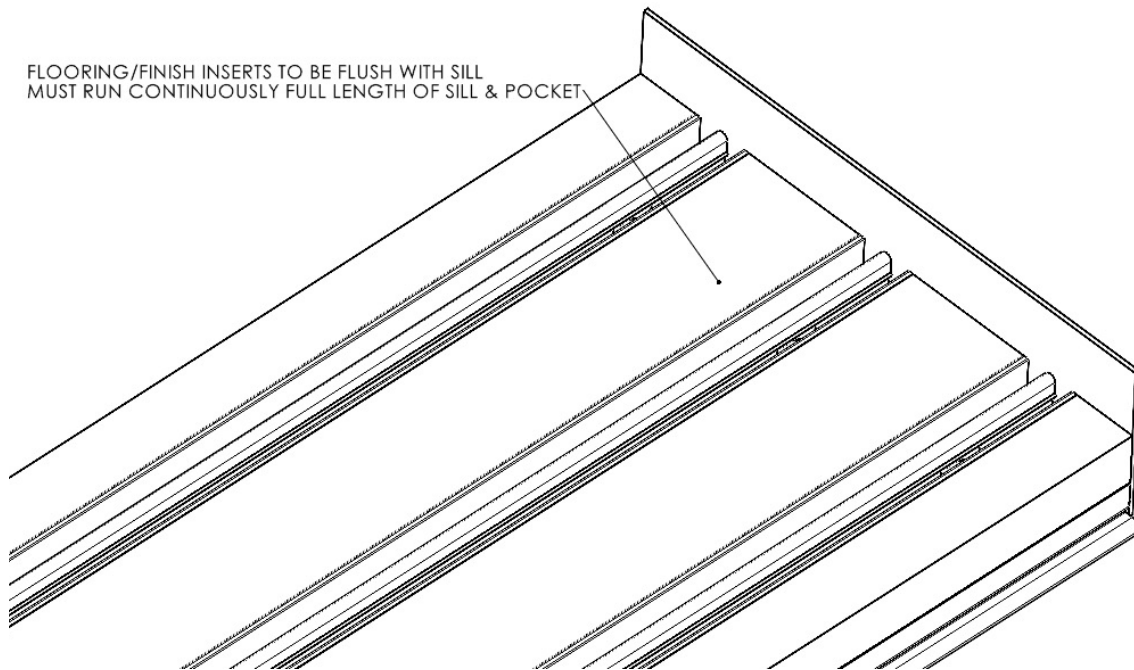

Figure 8
- No water management (sill with no weeps or drain fitting) (See Figure 8)
- 9. **Sill with No Weeps** - Sills with no weeps or drain fitting (no water management) shall have flooring fillers flush with the top of the sill and run the length of sill and full length of pocket. (See Figure 8).